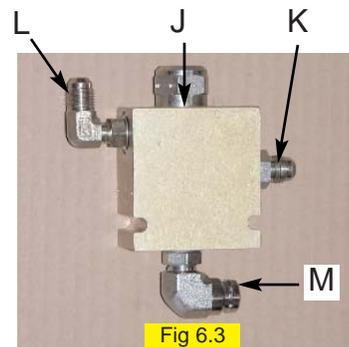

Fig 6.3
Pre-assemble the load sense shuttle (J) with fittings (K), (L), and (M) as shown. (Figure 6.3)